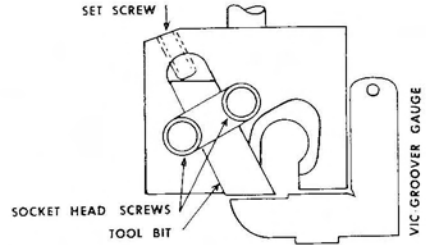

Figure 3
2. Hold correct size Vic-Groover gauge (supplied) in position shown in above Figure 3. With hex key fitted in set screw, adjust tool bit to lightly contact gauge. The gauge is notched to provide the correct tool bit projection. Should you not have a gauge, the correct projections are .010" for VG-46 and .003" for VG-8, as shown in above figure.